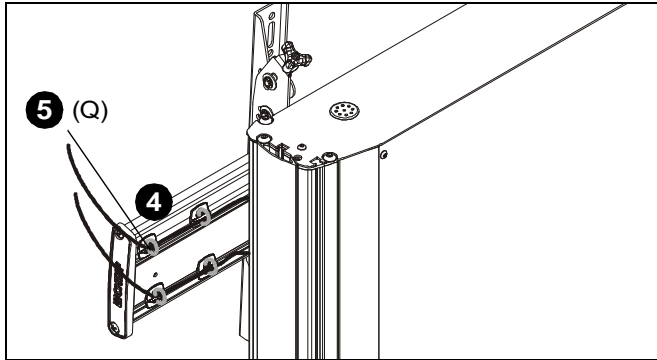

Figure 15
4. Route cables along FCA clips (P) to be used for cable management. (See Figure 15)
5. Use cable ties (Q) to secure cables to FCA clips. (See Figure 15)